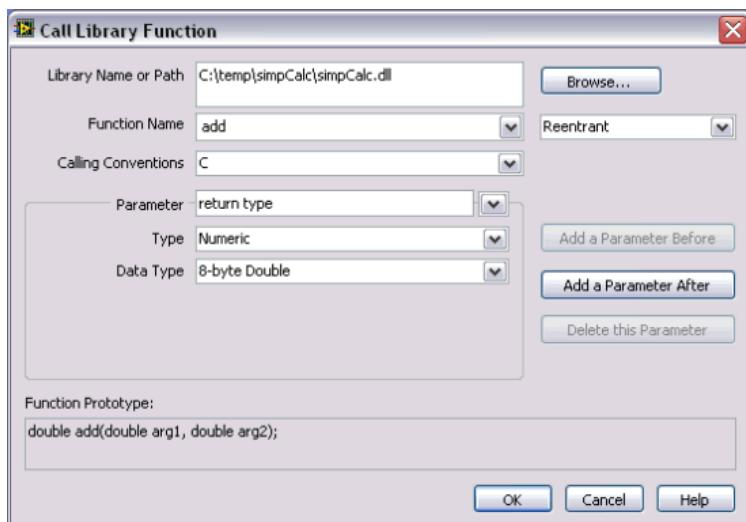

Figure 4. Call Library Function Dialog Box
11. When you finish, the Call Library Function dialog box should look similar to Figure 4.